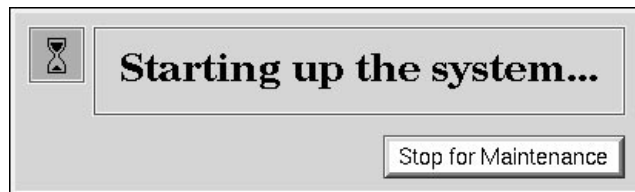

Figure 8-10 System Start-up Notifier
2. When the system start-up notifier appears, as shown in Figure 8-10, click *Stop for Maintenance* or press <Esc> to bring up the System Maintenance menu.